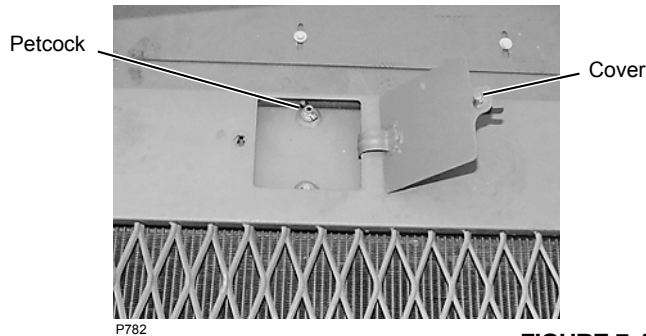

FIGURE 7-14
- c. Remove fill cap from auxiliary tank (Figure 7-14).
- d. Open petcock at both ends of radiator (Figure 7-14).